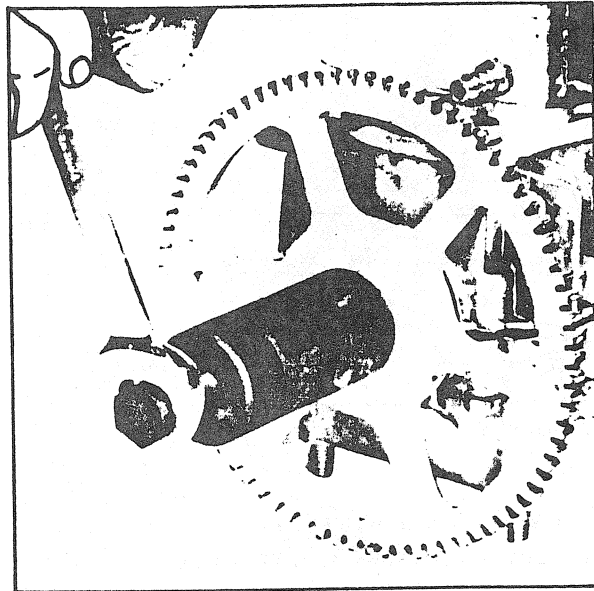

FIGURE 13
- Screw the puller bolt and pull out the ring gear from crankshaft (fig. 13).